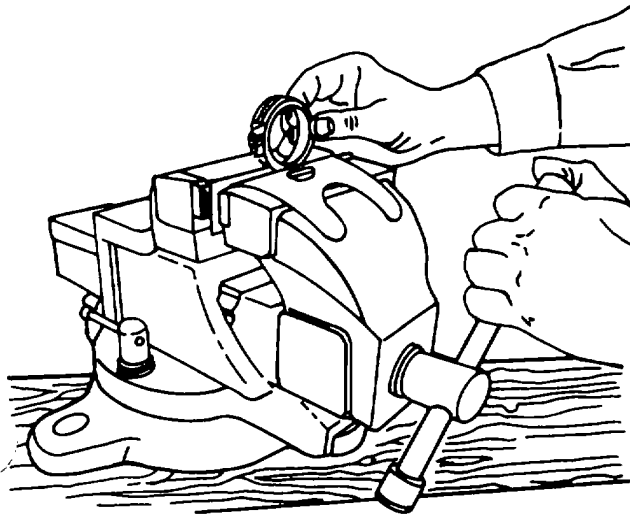

Figure 4-54. Using a Bench Vise
- (b) Insert the object to be clamped between the vise jaws, and tighten the jaws by turning the handle, as shown in figure 4-54.